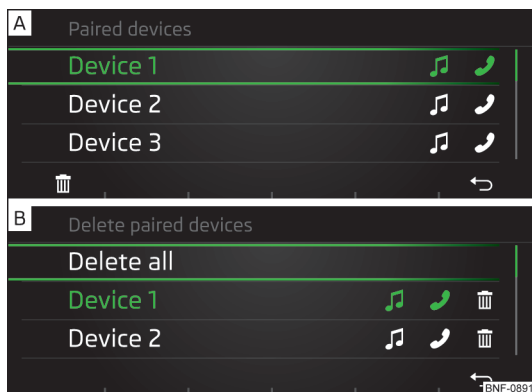

Fig. 118
In the list of paired external devices, the following Bluetooth® profile symbols are displayed when the phone is connected » Fig. 118 - [A].
- With the controller select the external device » Fig. 118 - [A].
- Press the function key » Fig. 118 - [A].
- Use the controller select the external device » Fig. 118 - [B].